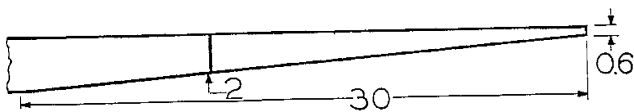

Fig. 27-13
8. Take another rod of the same length and diameter and repeat steps 1, 2, 3, and 4. The rod should then appear as in figure 27-13 and 27-13P.